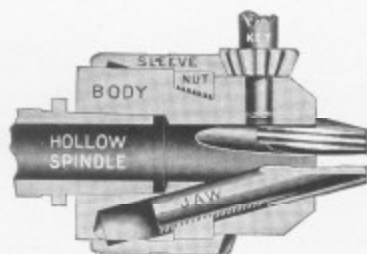

Fig. 33. Hollow Spindle Drill Chuck
**Hollow Spindle Drill Chuck.**—The illustration in Figure 33 shows a cross section of a three-jaw drill chuck fitted with a hollow spindle which fits the taper of the lathe spindle. It also shows that the chuck jaws open wide enough to permit the end of the valve stem to pass through the chuck. The jaws may then be clamped to the valve stem which holds the valve true.